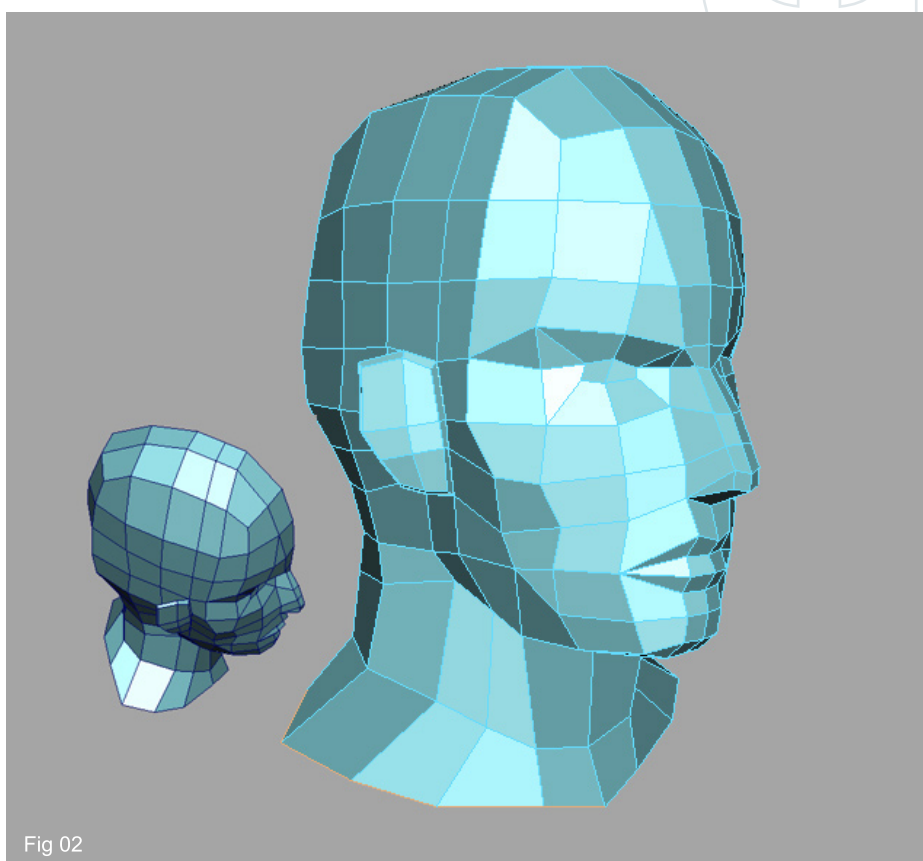

Fig 02
2. I want to build the upper side of the shoulder. Start moving the vertices outwards until you get the same result as in "Fig 02". On the lower left image from the "Fig 02" you can see how are the vertices disposed in space using another point of view.